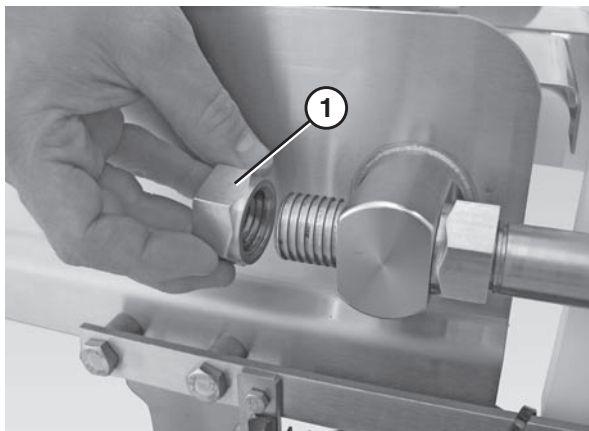

Figure 74
1. Remove the back nuts (**Figure 74, item 1**) on both discharge nose bar shafts.